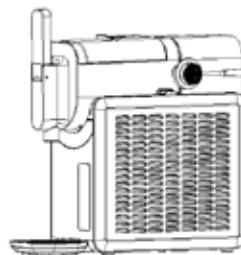

Fig. 2
8. Place the drip grate in the drip tray and slide in the drip tray at the bottom of the appliance (Fig. 2).